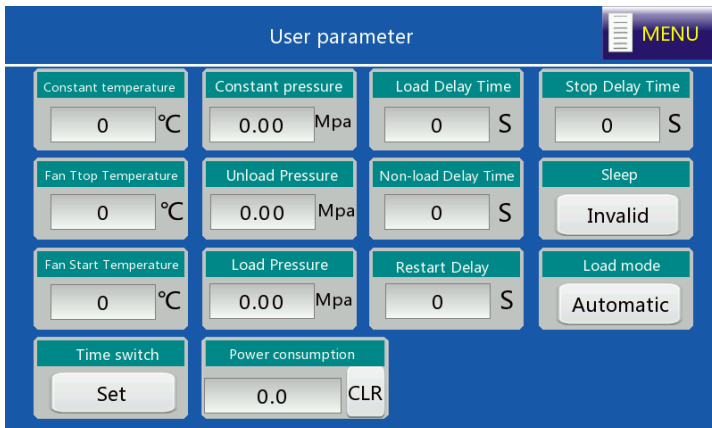

Figure 4-10 User parameter interface
6. Choose **User parameter** in the menu, and the interface is displayed, as shown in Figure 4-10.